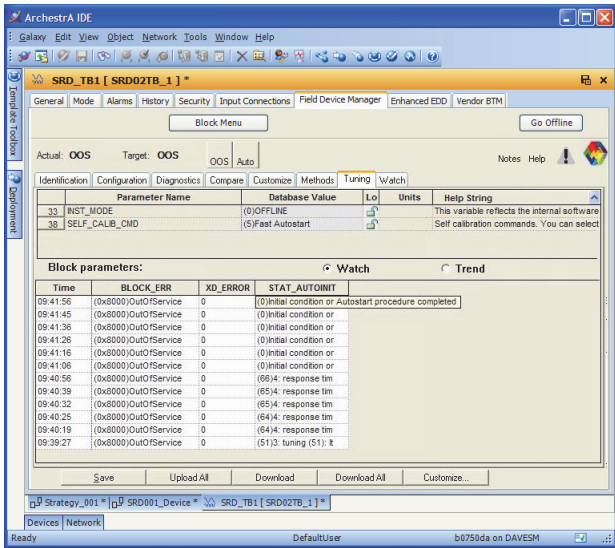

Figure 15. Monitoring Tuning Changes
- ▶ Tuning tab (Figure 15) is an on-line display having an upper portion that allows setting parameters in the device block and a lower portion where the response of up to eight dynamic parameters can be watched in either tabular or trend format. Typically, the set parameter is not a static parameter (that is, configured once), but rather a state command or tuning type parameter. In the Figure 15 example, the user has given a valve positioner an autostart command to begin the valve's self-calibrate routine, and is now watching the auto initiate status, block errors and transducer errors in the lower half of the tab.